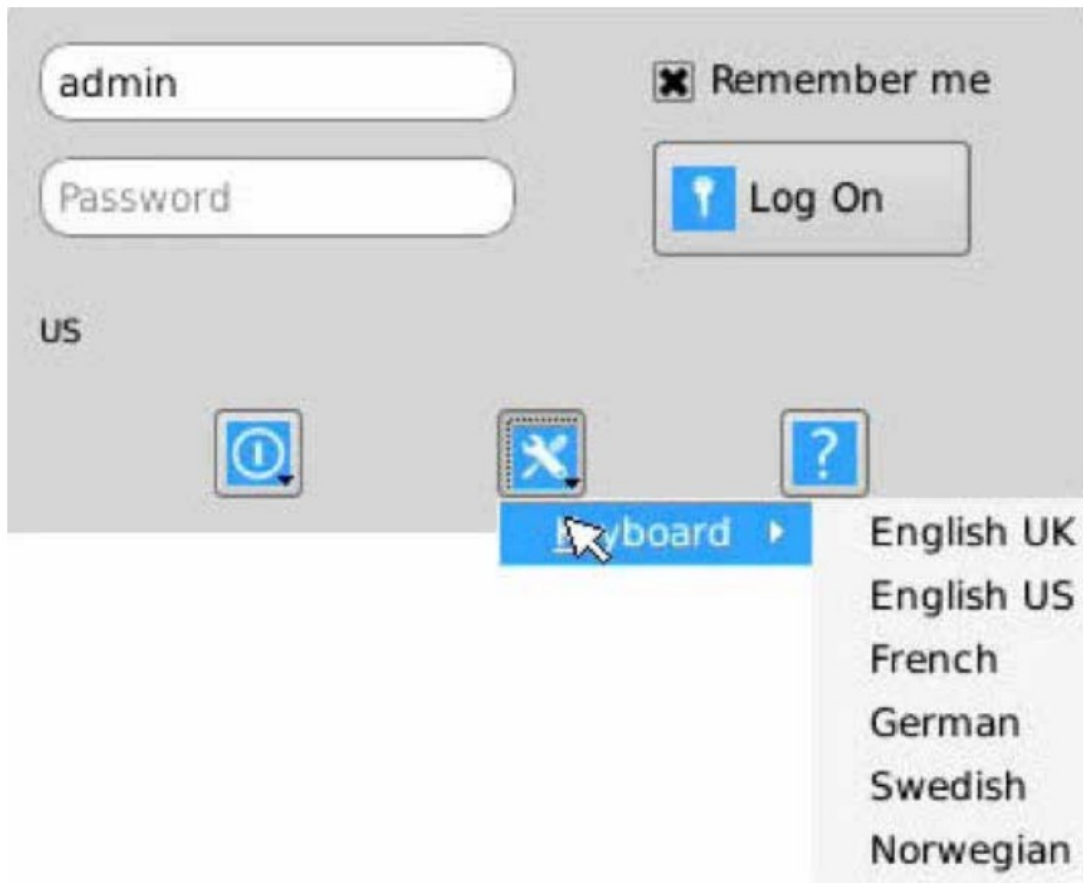

FIGURE 8-3. SETTING SYSTEMS KEYBOARD TYPE
- System Preferences: This button has a drop down menu that allows the user to define system preferences for the Emerald Receiver. Figure 8-3 shows how the keyboard type can be selected.